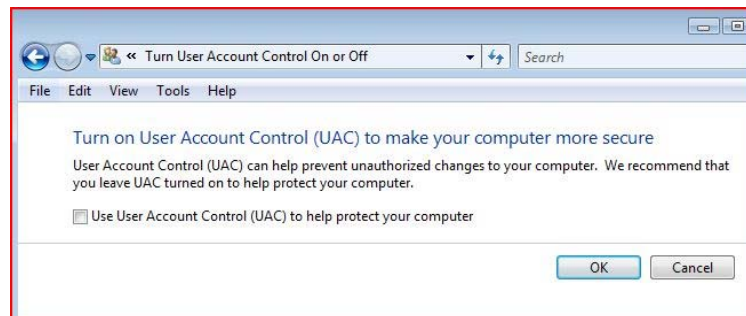

Figure II-2. Turn User Account Control On or Off Window
- 3) Click the **Turn User Account Control on or off** link in the User Accounts window. The Turn User Account Control On or Off window will open (Figure II-2).